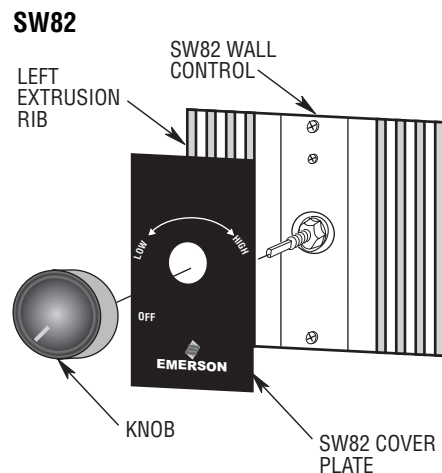

Figure 5
3. The SW82 front cover is installed by positioning the cover over the control shaft with the left edge inserted into the groove provided on the extrusion rib. Using the palm of your hand, press the right edge of the cover into the extrusion rib (Figure 5).